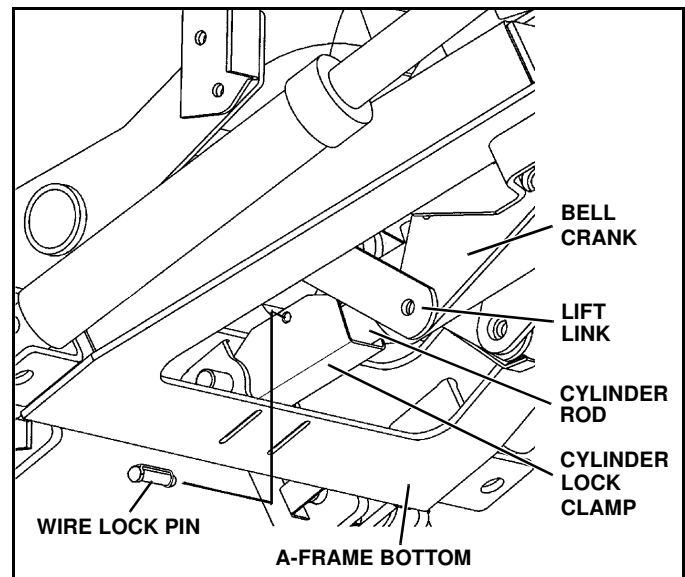

Figure 1-20
5. Position the cylinder lock clamp around the exposed (chrome) portion of the lift cylinder with the open side of the cylinder lock up. Install the pin. (See Figure 1-20).